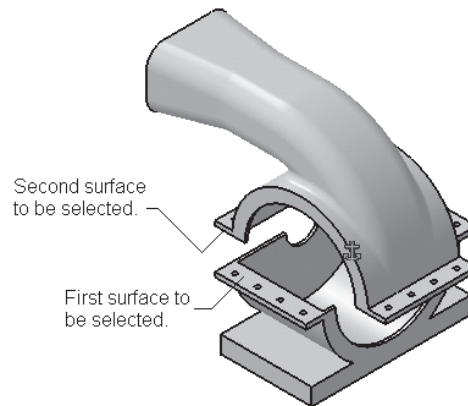

Figure 11-68 The surfaces to be selected to apply the **Contact** constraint
- d. Insert the Upper Housing into the assembly and place it over the lower housing by applying proper constraints, refer to Figures 11-68 through 11-70.
The Upper housing is placed at its default location, as shown in the Figure 11-68. You need to apply constraints to place it properly over the Lower Housing.
2. Choose the **Contact Constraint** button from the **Constraints** toolbar. Select the two faces shown in Figure 11-68. You need to rotate the view of the assembly to select the surface that is not visible in the current display.